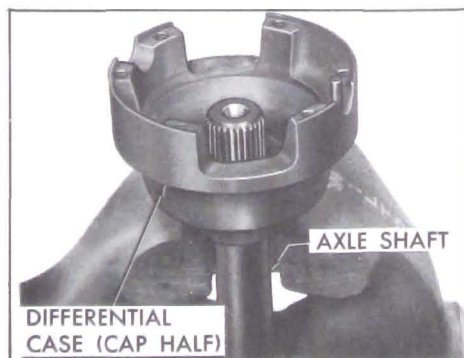

Fig. 6-39—Axle Shaft &amp; Cap Half of Differential Positioned in a Vise
1. Clamp one axle shaft in a vise allowing three inches to extend above vise jaws. Then place the cap side of differential case over extended axle shaft with interior of case facing up. See Figure 6-39.